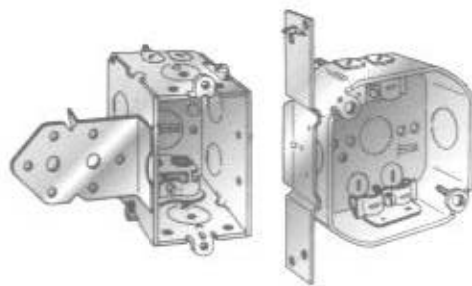

Fig. 9-7 Boxes with mounting brackets save time.
**Mounting switch boxes** Boxes must be firmly secured to studs. Some boxes come with nails attached. If mounting nails pass through the box, they must not be more than  $\frac{1}{4}$  inch from the back or ends. It is usually faster to use boxes with mounting brackets (Fig. 9-7). Always install boxes so their front edges are flush with the surface of the finished wall.
**Mounting outlet boxes** If the box is to be installed near a stud, use an outlet box with a mounting bracket such as shown in Fig. 9-7. If the box must be mounted between studs or joists, use a hanger of the type shown in Fig. 9-8. It is adjustable in length and has a fixture stud sliding on it. Remove the center knockout in the box, slide the stud to the position wanted, push the stud through the knockout, and drive the locknut on the inside of the box securely home. Then nail the hanger to the studs or joists so the front edge of the box (or the cover mounted on it if it is the type shown in Fig. 9-6) will be flush with the wall or ceiling as shown in Fig. 9-9. Even handier are preassembled boxes with hangers as shown in Fig. 9-10.